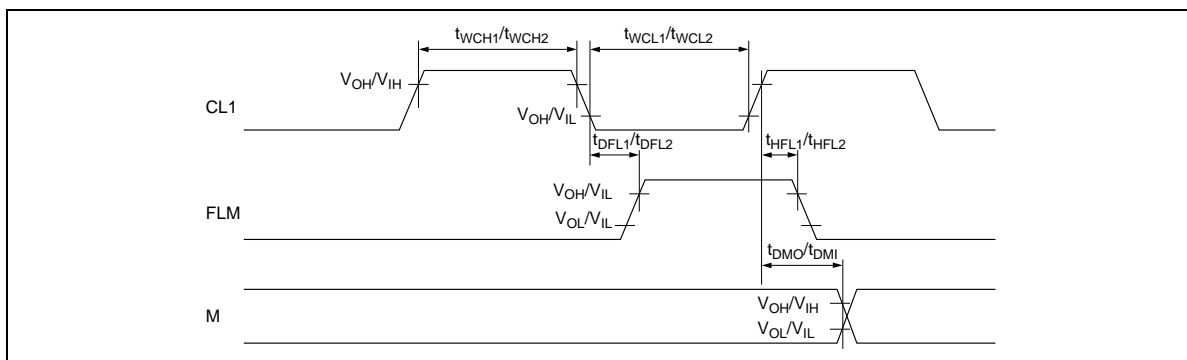

Figure 38 LCD Interface Timing
2. LCD Interface Timing (Figure 38)